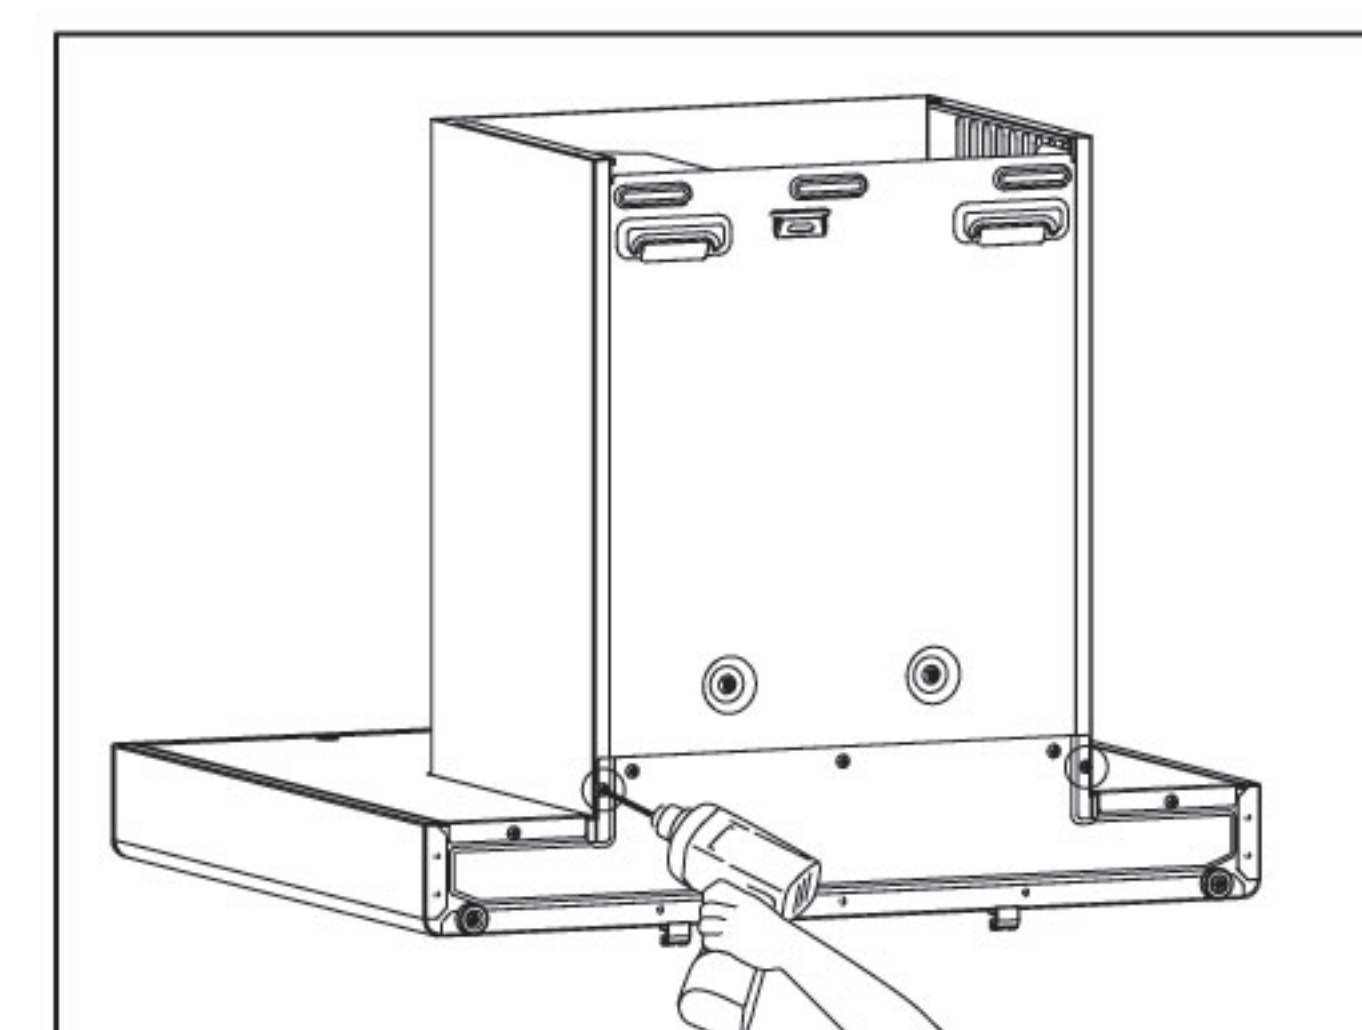

fig9
- Move the whole machine out of the packing box, unscrew two screws used for fixing the fan cover on the back of the range hood, and remove the fan cover and the decorative cover. (fig9)